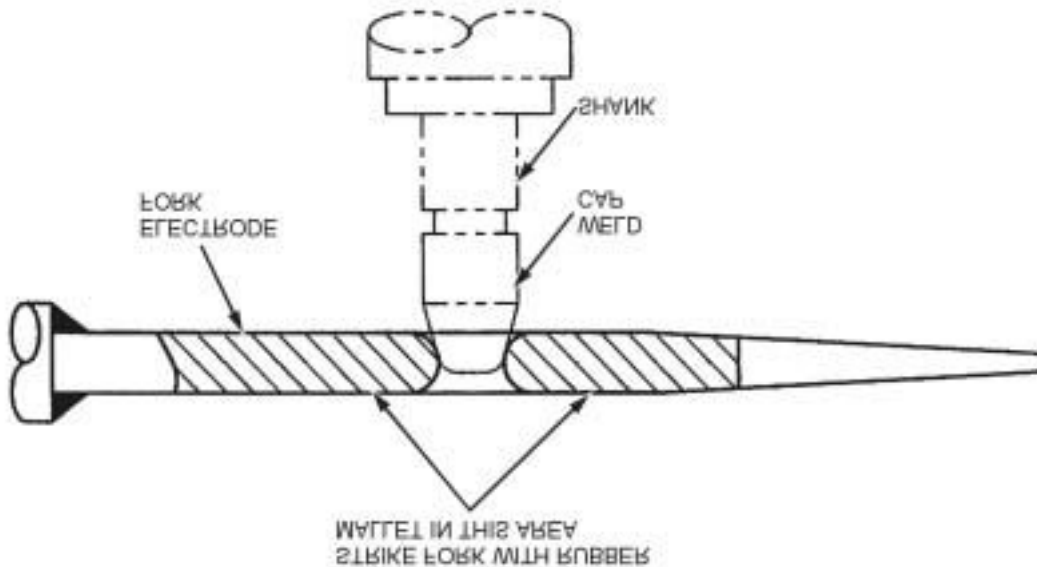

Figure 8.2: Shank Installation
3. Place electrode fork "WG-10818-51" over weld cap. See Figure 8.2.
4. Strike with rubber mallet until shank is secure. See Figure 8.2.